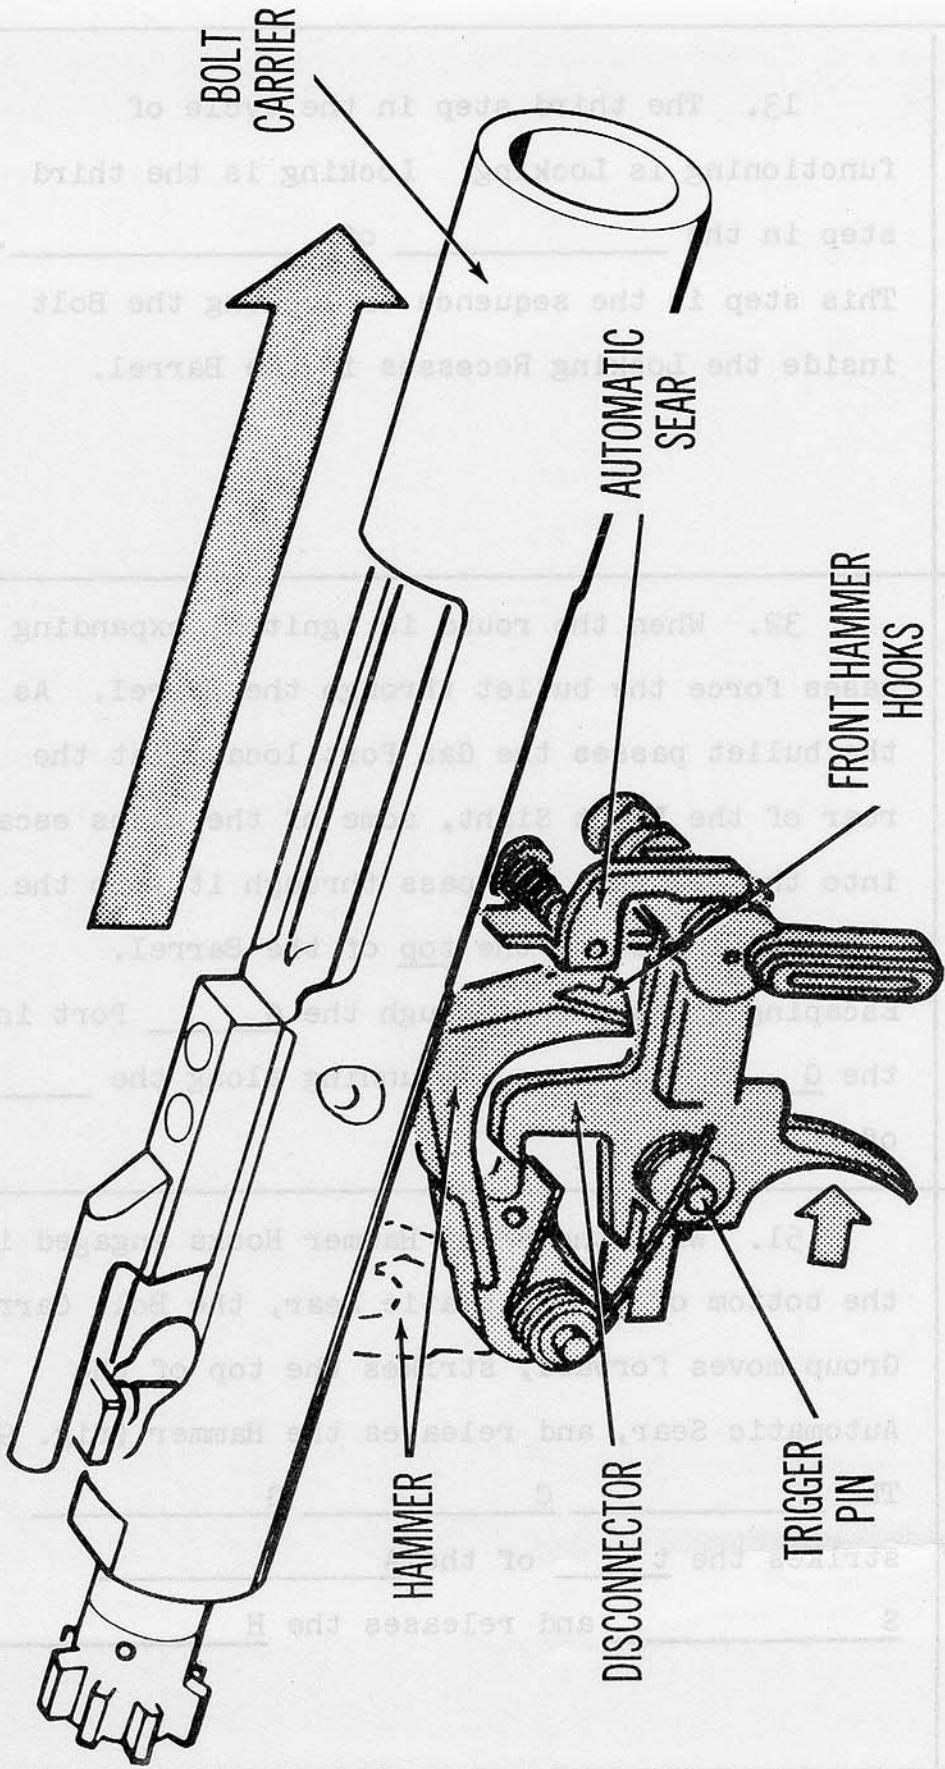

FIG. 9
51. With the Front Hammer Hooks engaged in the bottom of the Automatic Sear, the Bolt Carrier Group moves forward, strikes the top of the Automatic Sear, and releases the Hammer (fig. 9). The B C G strikes the t of the A S and releases the H.